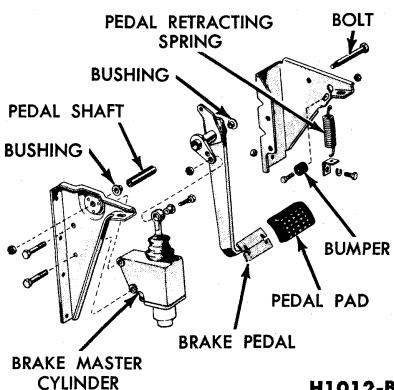

FIG. 21—C-Series Brake Pedal
1. Remove the brake pedal retracting spring (Fig. 21).